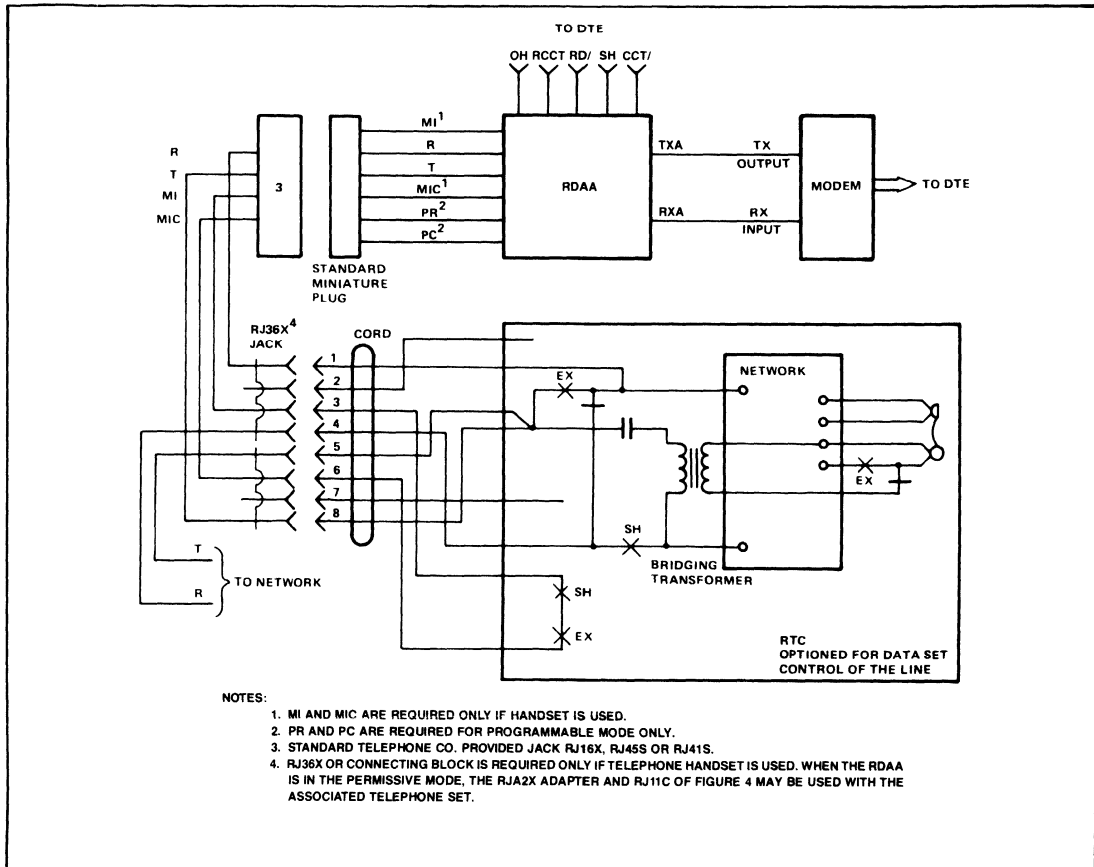

Figure 5. Transmit and Receive (Half Duplex) and (Full Duplex)
- A. For the half-duplex and full-duplex configurations, the interface connection circuitry could be as shown in Figure 5.
- B. For the receive-only configuration, the connection circuitry is the same as that shown in Figure 5, except that the RDAA input lead TXA is grounded rather than connected to the modem transmitter output.
- C. For the transmit-only configuration, the RDAA lead RXA is left open rather than connected to the modem receiver as shown in Figure 5.